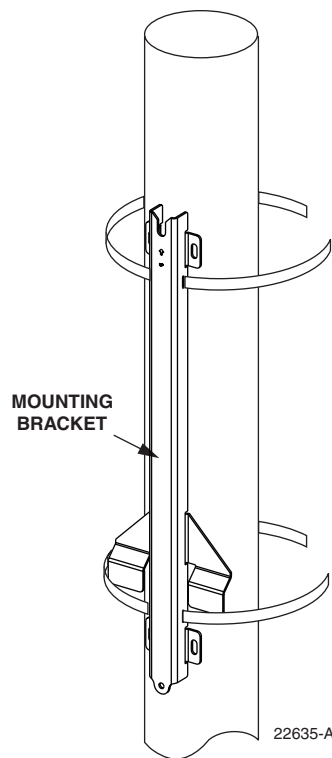

Figure 8. Secure Standard Mounting Bracket To a Metal Pole
1. Insert the two sections of stainless steel metal strapping (provided with the enclosure) through the slots in the mounting bracket and place in position for mounting as shown in Figure 8. The end with the V-notch should be at the top.